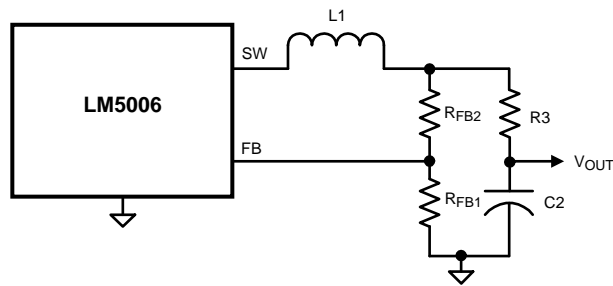

Figure 40. Alternate Minimum Output Ripple
c) Alternate minimum ripple configuration: The circuit in Figure 40 is the same as that in the Block Diagram, except the output voltage is taken from the junction of R3 and C2. The ripple at V_{OUT} is determined by the inductor's ripple current and C2's characteristics. However, R3 slightly degrades the load regulation. This circuit may be suitable if the load current is fairly constant.